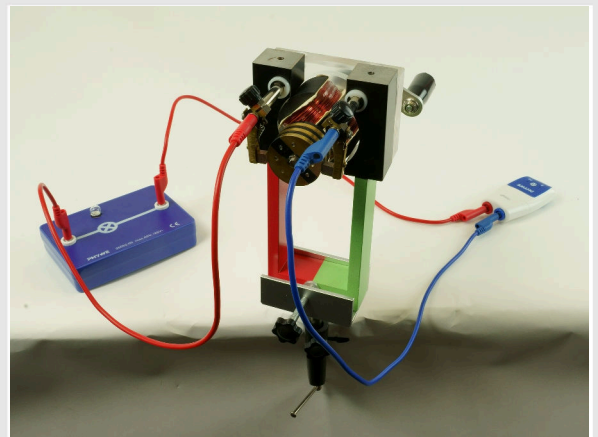

Fig. 4
- Modify the experiment according to Fig. 4, connect the meter and the 4V bulb in series and connect them to the motor. Pay attention to the correct polarity.